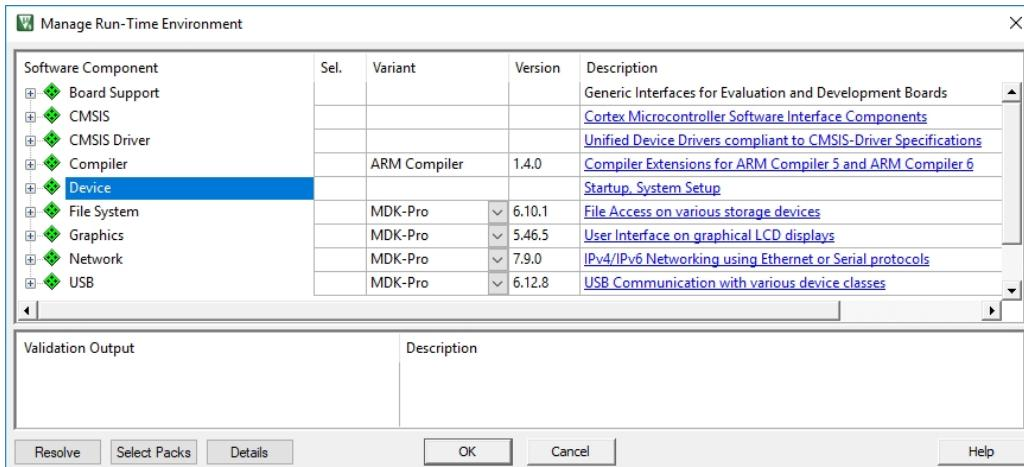

Figure 6. Manage Run-Time Environment
h. When Keil μVision IDE launches the Manage Run-Time Environment window, shown in Figure 6, where Keil ARM-MDK software components can be added to the project, click the OK button to continue without adding any software components.